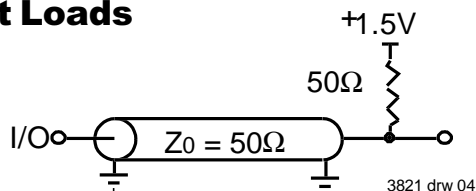

Figure 1. AC Test Load
AC Test Load	See Figures 1
4. These parameters are guaranteed with the AC load (Figure 1) by device characterization. They are not production tested.